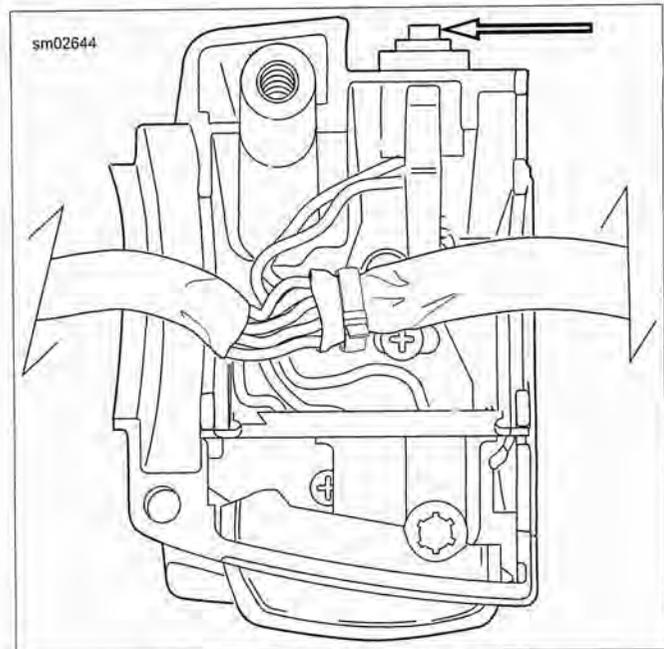

Figure 6-151. Clutch Interlock Switch
1. See Figure 6-151. Cut wires 0.25 in (6.4 mm) from old switch. Discard switch assembly.